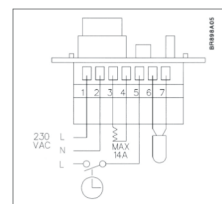

Fig. No 2
- Electrical connections should be made as shown in the wiring diagram. (Fig. No 2).